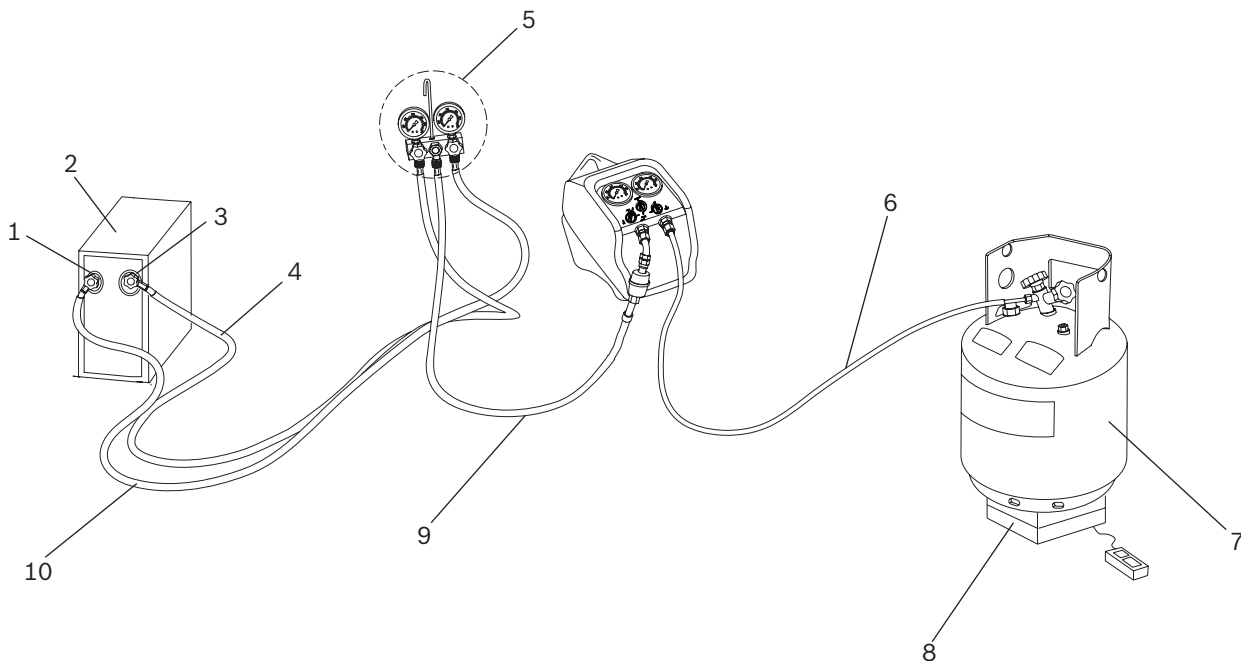

Fig. 3: Normal recovery
4. Connect the RG8.0 / RG4.0 to the system being serviced according to Fig. 3. Follow the order outlined below. Use only designated refrigerant hoses that meet local regulations. It is strongly recommended to use hoses with manual shutoff valves on one end, and these instructions are written for such hoses.